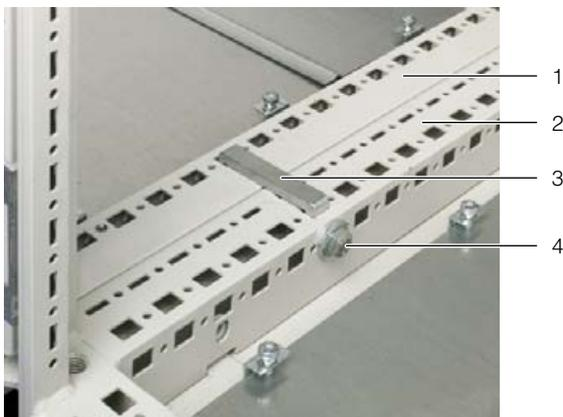

Fig. 27: Baying clamp
- In the front section, push out a baying clamp (fig. 27, item 3) from the server enclosure (fig. 27, item 2) through the corresponding notch in the side panel of the LCP Inline (fig. 27, item 1).
- From the server enclosure, tighten the baying clamp (fig. 27, item 4), so that the frames of the server enclosure and LCP Inline are firmly connected to one another.